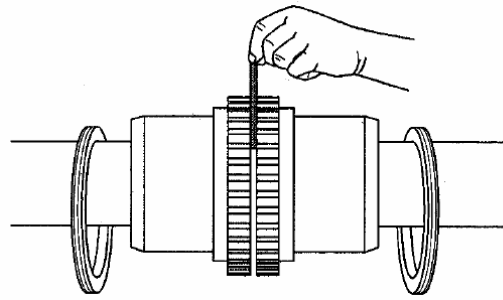

FIGURE 6C – USING SPACER BAR
8. Use a spacer bar equal in thickness to the gap specified in Figure 6C. Insert bar, as shown below, to same depth at 90° intervals and measure clearance between bar and hub face with feeler gauges. The difference in minimum and maximum measurements must not exceed the angular installation limits shown in Figure 6H.